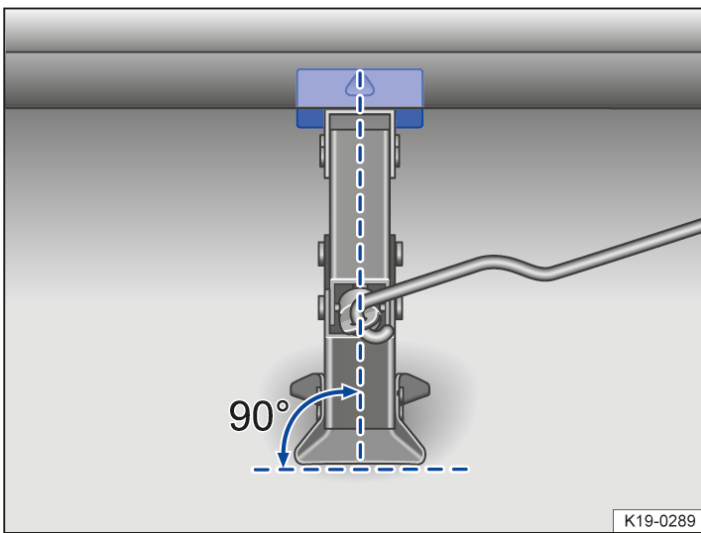
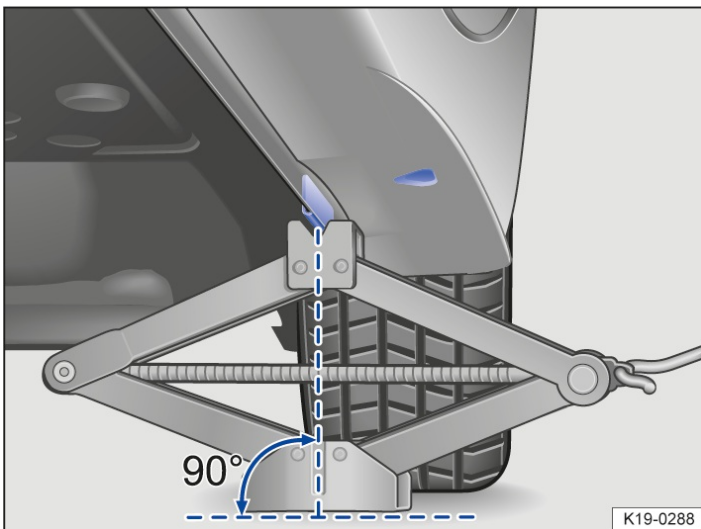

Fig. 2 Correct alignment of the jack.
Fig. 3 Scissors jack applied at the rear on the left-side of the vehicle.
9. Make sure that the entire surface of the foot of the jack is resting securely on the ground and that the foot of the jack is positioned vertically directly beneath the jacking point → Fig. 3 and → Fig. 2.
10. Position the jack and simultaneously continue to crank the claw up until it is in position around the vertical rib underneath the vehicle → Fig. 3.
- Apply the jack only at the points described. The jack claw must grip the jacking point under the side member securely → Fig. 3.